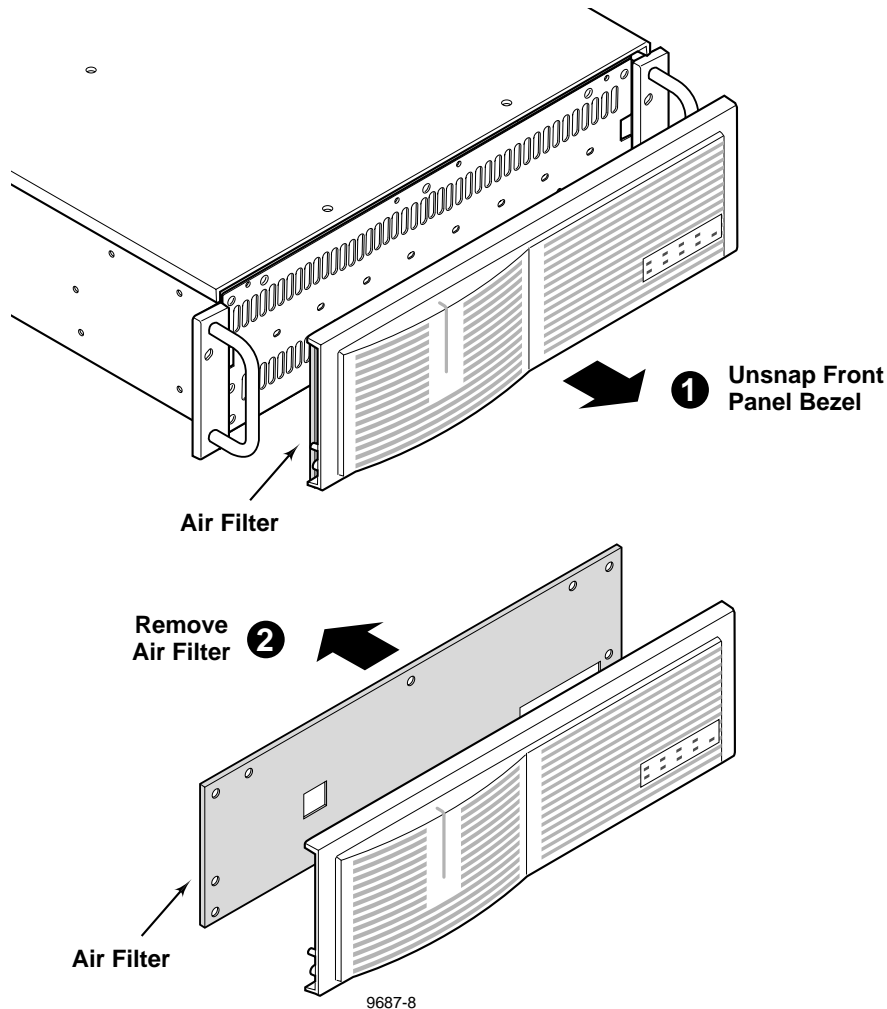

Figure 3-1. PDX218 Air Filter Removal
In a humid environment, the air filter behind the front bezel of the PDX218 will usually require more frequent attention than in a dryer environment. Figure 3-1 shows the location of the filter which requires removal of the front bezel. To remove the air filter for cleaning or replacement, refer to Figure 3-1, and proceed as follows:
4. Attach the filter to the bezel as shown in Figure 3-1.
1. Unsnap the front panel bezel by firmly pulling away from the front panel (Figure 3-1).
4. Position the front panel bezel mounting posts over the holes in the front panel and press firmly until the bezel snaps back in place (Figure 3-1).